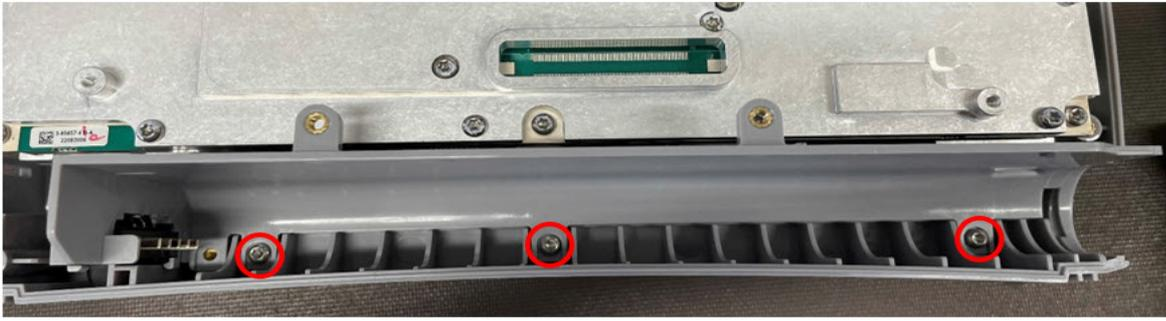

Figure 4-8. Battery Shroud Removal
5. Remove the three Torx screws securing the battery shroud using a T10 Torx screw driver. See Figure 4-8.